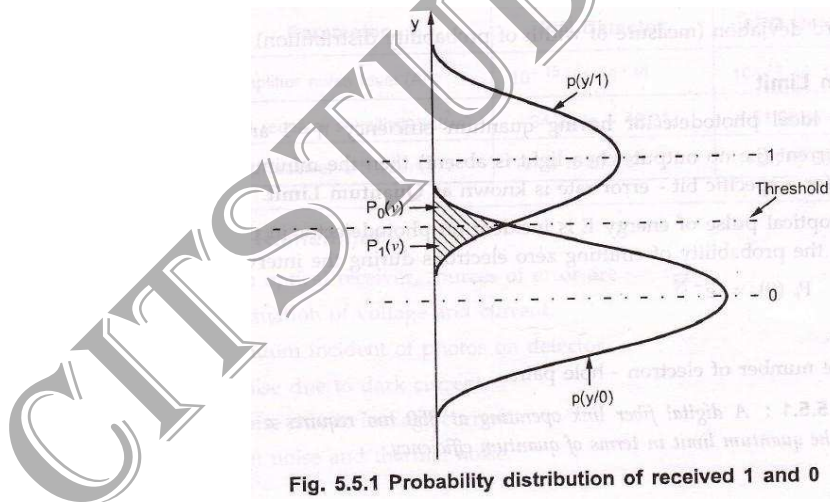

Fig. 5.5.1 Probability distribution of received 1 and 0
- x Condiitonal PDF :  $P(y/x)$  is the probability that the output voltage is  $y$  when  $x$  was transmitted. The functions  $p(y/1)$  and  $p(y/0)$  are conditional PDF as shown in Fig. 5.5.1.